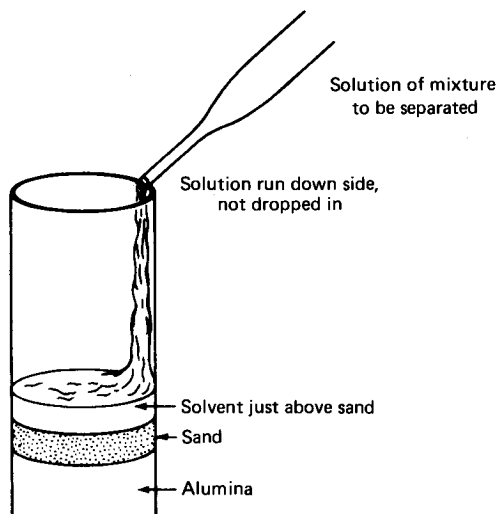

Fig. 99 Putting compounds on the column by pipet.
1. Use a pipet and rubber bulb to slowly and carefully add it to the top of the column (Fig. 99). *Do not disturb the sand!*